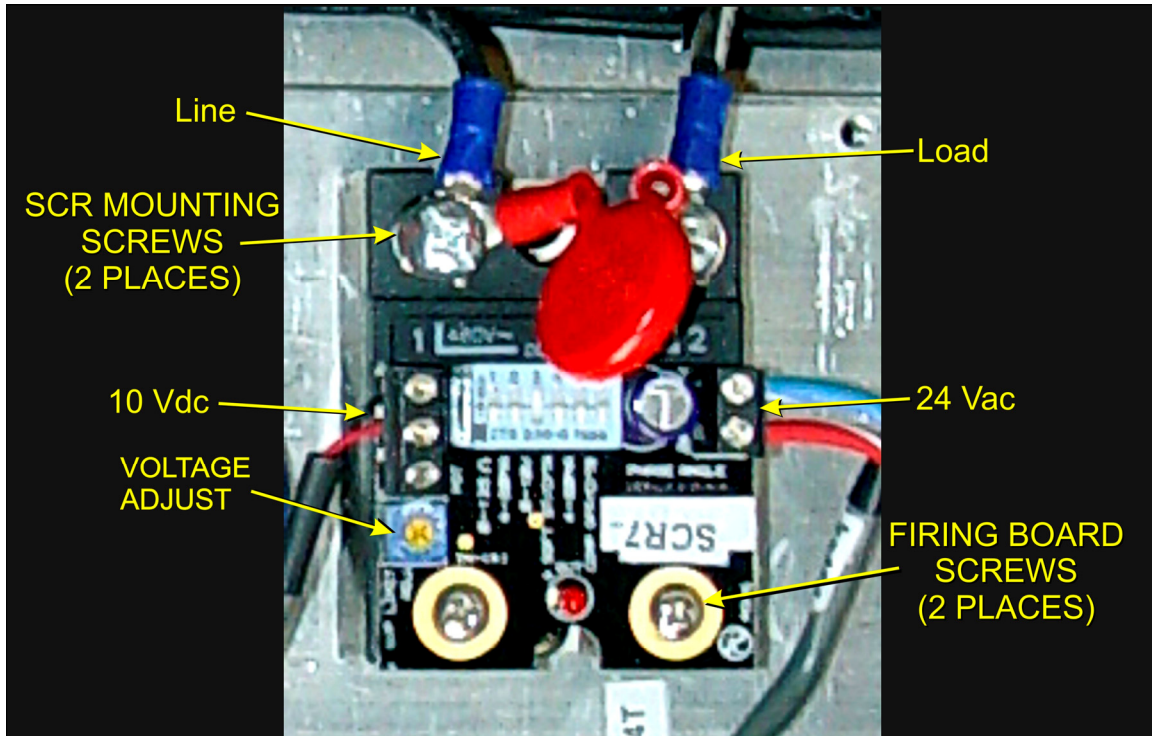

Figure 3-44 SCR installed
To remove the entire SCR assembly, disconnect the 10Vdc and the 24 Vac wire pairs. Unscrew the Line and Load wires. If you are only replacing the firing board, remove the (2) firing board screws. If you are removing the entire assembly, remove the (2) SCR Mounting screws. See **Figure 3-44 SCR installed**